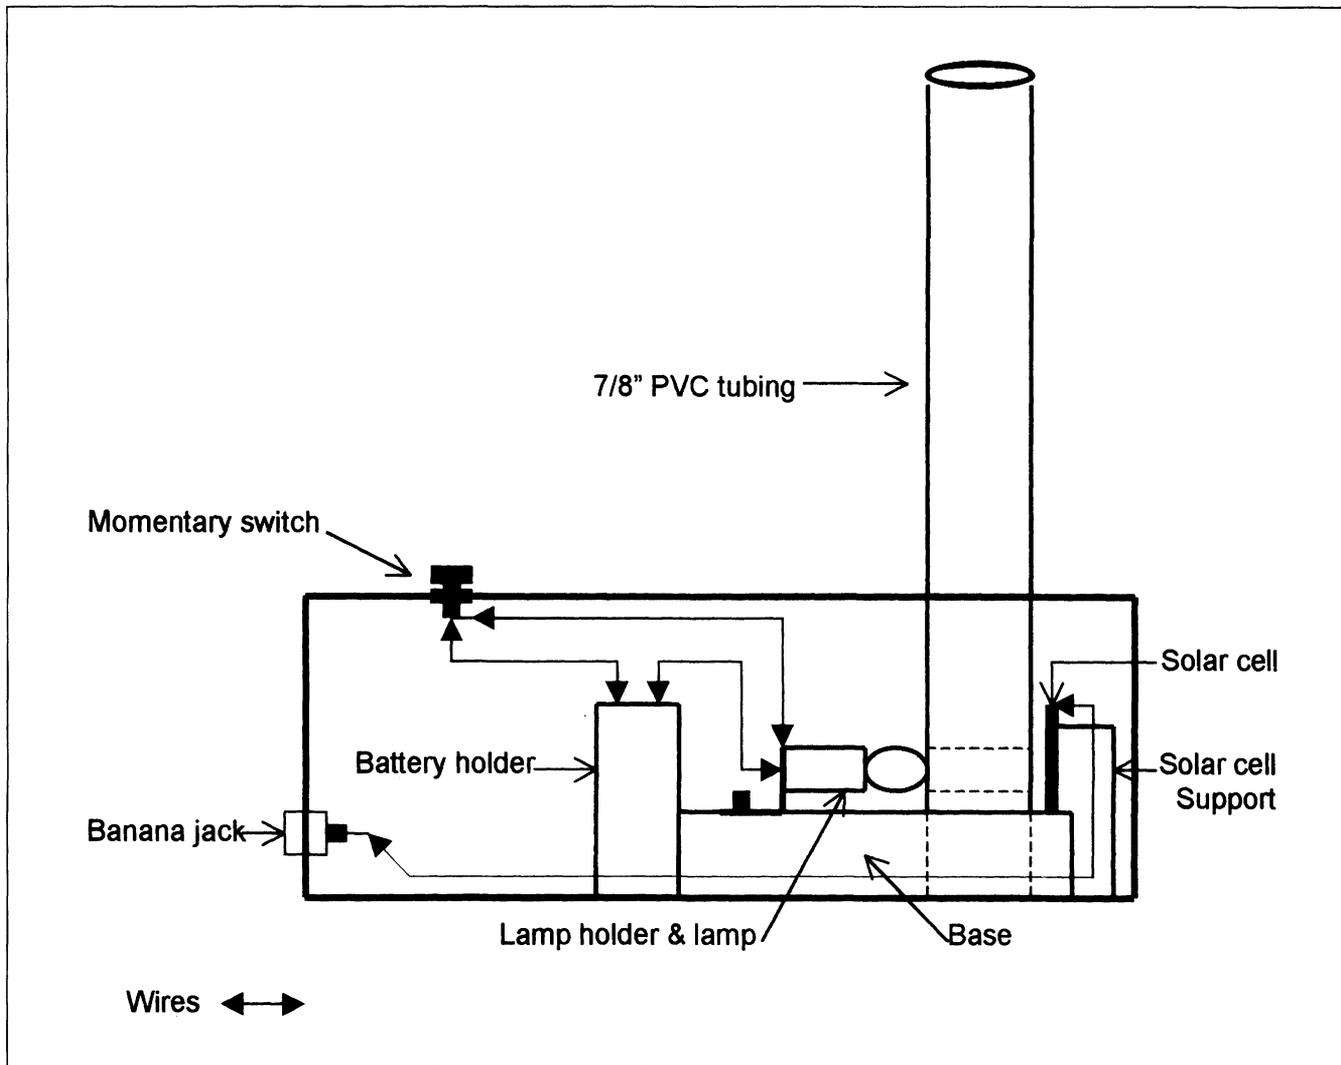

Figure 3. Photometer in phantom side view.
6. Glue the mortised side of the solar cell support described in Step 3 to the short side of the tubing end of the base, making sure this piece is centered (Figure 3). This will leave about a 1/16" gap between the face of the support and the tubing.
10. Drill two 5/16" holes into the side of the project enclosure for the banana jacks. Their location (Figure 3), while not critical, should avoid objects inside the photometer. Insert the jacks and tighten them in place.
11. Insert the base into the project enclosure so that the solar cell support is at one end of the enclosure (Figure 3).
16. To complete the lamp circuit (Figure 3), connect and solder the 6" lead wire from the lamp holder to one of the terminals of the switch. Then solder a wire from the battery holder to the other switch terminal.